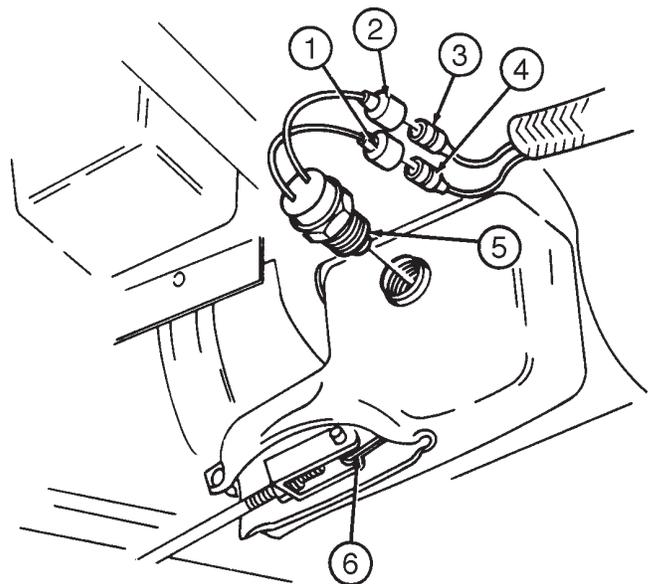

Figure 5-3. Parking Brake Switch.
G. PARKING BRAKE LIGHT SWITCH TEST (Figure 5-3)